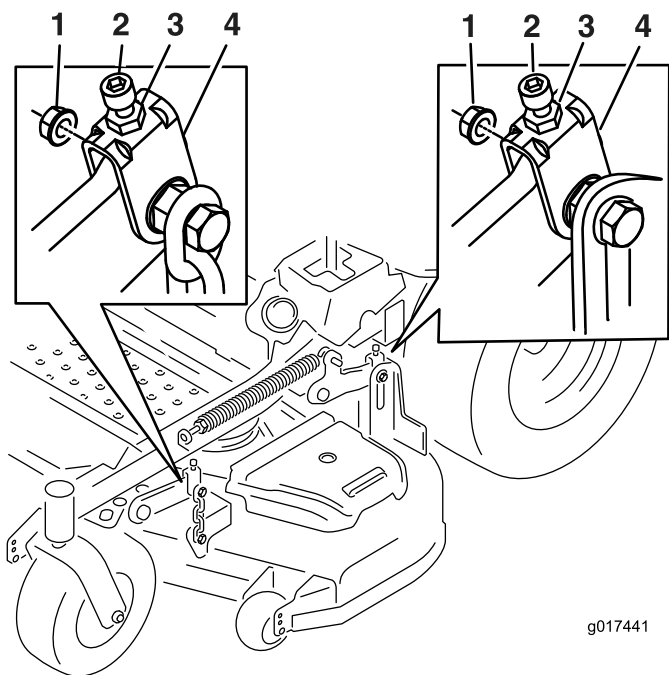

Figure 76
10. If needed, loosen the whizlock nut on the side of the yoke and the jam nut on top. Fine tune the screw adjuster by turning it to get 7.6 mm (3 inch) height (see Figure 76).
- Fine tune the screw adjuster by turning it to get 8.3 mm (3-1/4 inches) height (Figure 76).